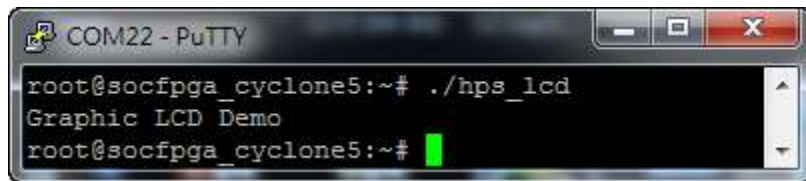

Figure 6-13 Launch LCD Demonstration
- In the UART terminal of PuTTY, type "**./hps_lcd**" to start the LCD demo, as shown in **Figure 6-13**.